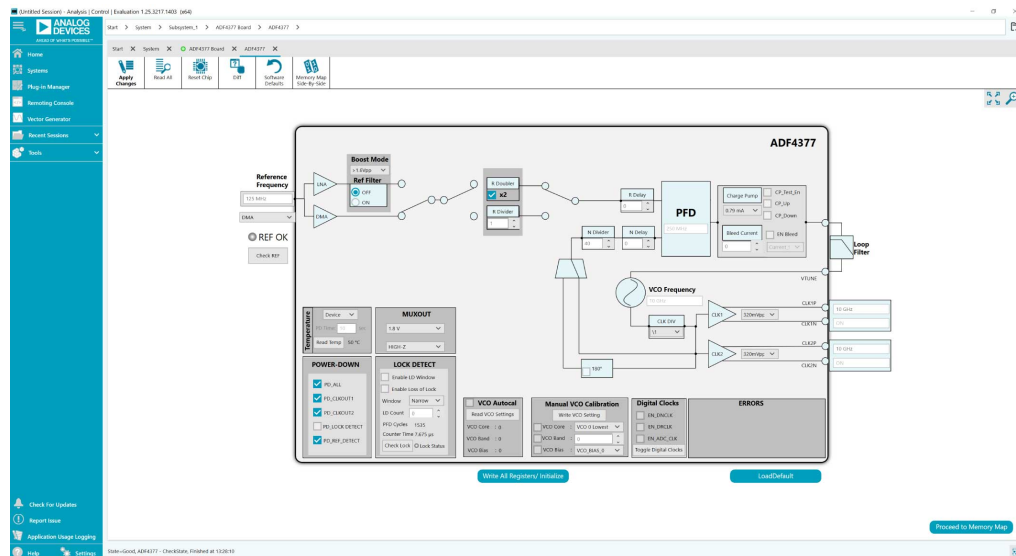

Figure 5. Main Page
All components necessary for local oscillator (LO) generation are installed on the EV-ADF4377SD1Z. The EV-ADF4377SD1Z is shipped with an 125 MHz crystal oscillator (XO), the ADF4377 synthesizer with an integrated VCO, and a 650 kHz loop filter (charge pump current (I_{CP}) = 11.1 mA) at 10 GHz. When the EV-ADF4377SD1Z is powered-up and connected to the ACE software, clicking the **LoadDefault** and **Write All Registers/ Initialize** buttons, shown in Figure 5, provides a 10 GHz output clock on both clock output channels.
- 3. Double-click the **ADF4377** button that appears in Figure 4 to open the main control window shown in Figure 5.
The main controls are available in the high level register map, shown in Figure 5. To modify registers, perform the following steps:
Run the software and follow the steps shown in the Evaluation Board Software section to open the main page as shown in Figure 5.